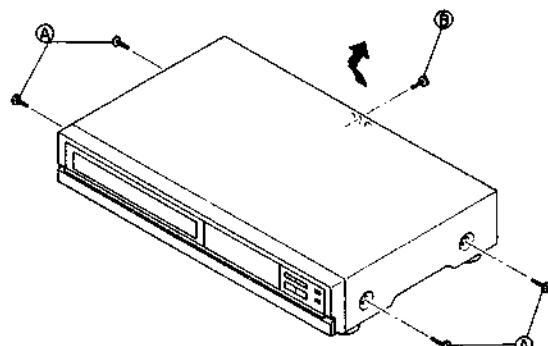

Fig. 1-1-1
1. Refer to Fig. 1-1-1 and set for the EJECT (Stop) mode and disconnect VCR from AC power.